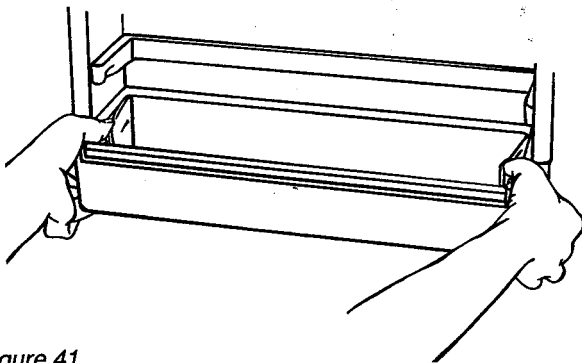

Figure 41
- With thumbs and forefingers of both hands, push and hold lock tabs toward center of bucket. See Figure 41.